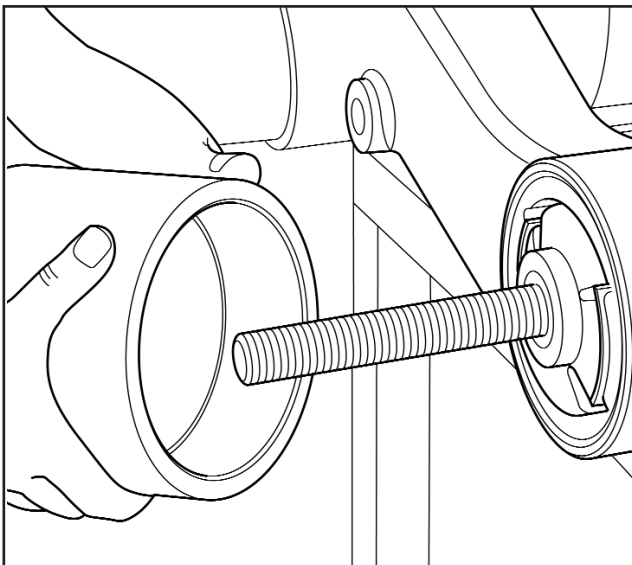

Fig 4.29
13. Push funnel "D" onto the trailing arm outer tube opposite the FBT "C" (Recess facing towards pivot bush) (Fig 4.29).